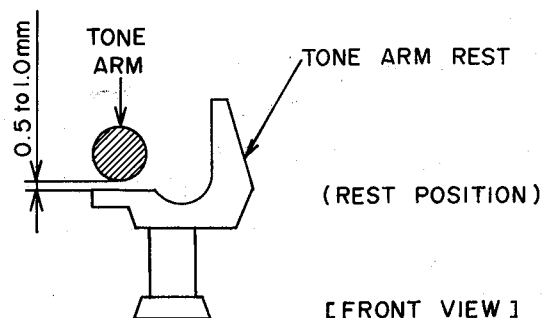

Fig. 7-2
(Refer to Figs. 7-2 & 7-3)
- 2) Adjust Screw (A) of Elevation Lever so that the height are 0.5 to 1.0 mm from flat face of Tone Arm Rest. (Refer to Fig. 7-2)
- 4) If the height difference of Stylus is more than ± 2.0 mm, repeat item 1) to 3).